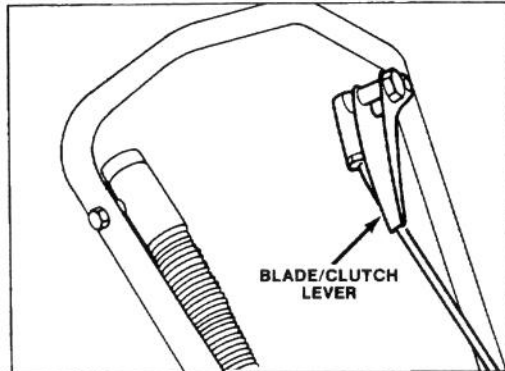
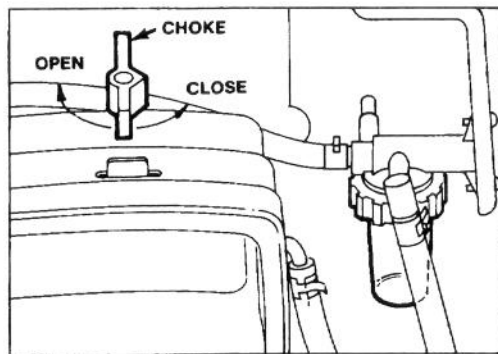
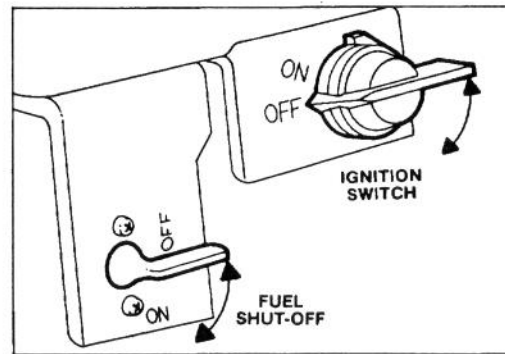
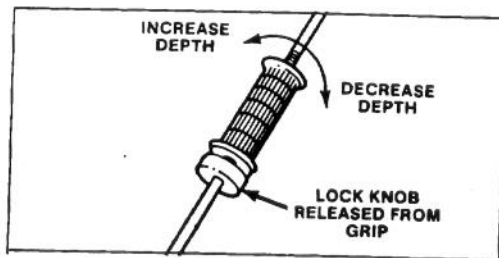

Figure 7
Figure 8
Figure 9
Figure 12
1. CONTROLS — Blade/clutch lever is on upper handle (Fig. 7), depth adjusting grip is at center of rod (Fig. 12) and ignition switch is at side of engine (Fig. 9).
2. STARTING — Push wire onto spark plug and assure blade control is disengaged. Close choke by moving lever to right (Fig. 8). A warm engine will require little or no choking. Rotate ignition switch and fuel shut-off to ON (Fig. 9). Place foot on rear wheel and pull recoil starter. When engine starts, gradually open choke by moving lever to left.
3. EDGING — Squeeze blade/clutch lever (Fig. 7) against handle to engage blade and move cutter to preset depth. Release blade/clutch lever to disengage blade and raise cutter head.
4. STOPPING — Release blade/clutch lever (Fig. 7). Rotate ignition switch and fuel shut-off to OFF (Fig. 9).
3. ADJUSTING DEPTH (Fig. 12) — Grasp lock knob and grip. Rotate grip counterclockwise until lock knob is free. Screw lock knob down rod so it is out of the way. Then rotate grip clockwise to increase depth and counterclockwise to decrease depth.